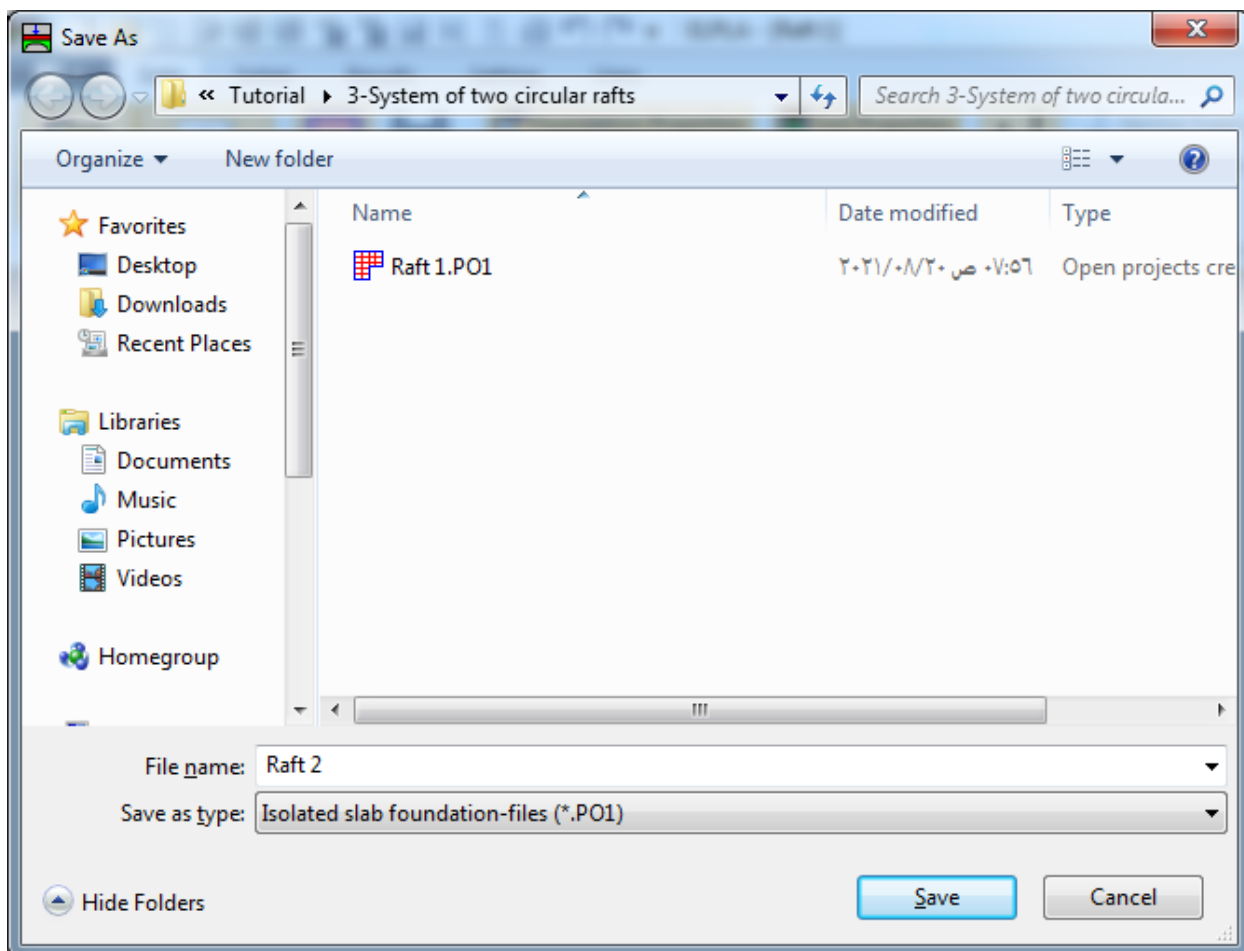

Figure 3.27 "Save as" dialog box
- Choose "Save project as" command from "File" menu of "Data" Tab. The following "Save as" dialog box appears, Figure 3.27